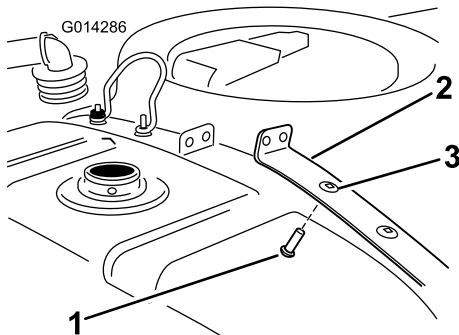

Figure 8
- Install a carriage bolt to the inboard hole on the right rear tank strap (Figure 8).